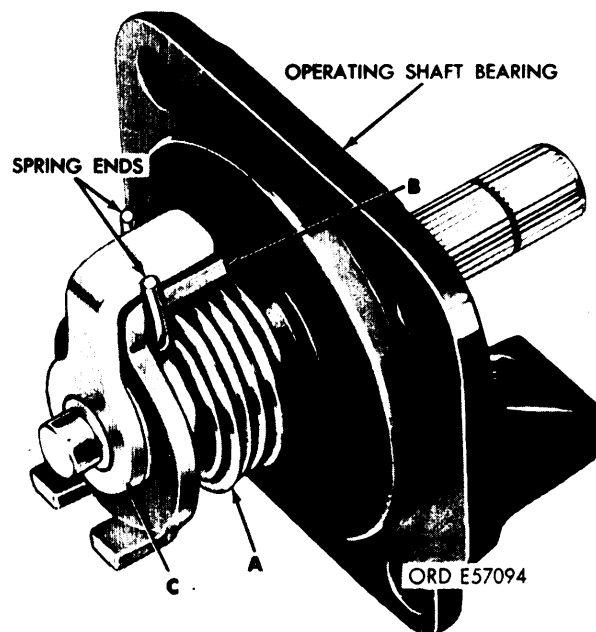

Figure 3-76. Assembling operating shaft bearing and associated parts.
(5) Refer to figure 3-76. Install operating shaft packing (D, fig. 3-62) on operating shaft. Install the operating shaft spring (A) on the shaft spring plate (B) with the spring ends gripping the tang on the shaft spring plate. Install the shaft spring plate and operating shaft spring on the operating shaft bearing. Install operating shaft (C) so its arm is between spring ends.